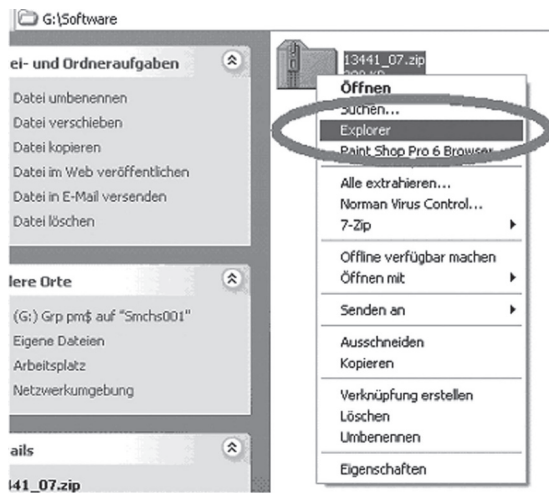

Fig.3-26 "Explorer" auswählen
- In the shortcut menu that appears, select the "Explorer" item (Fig.3-26).